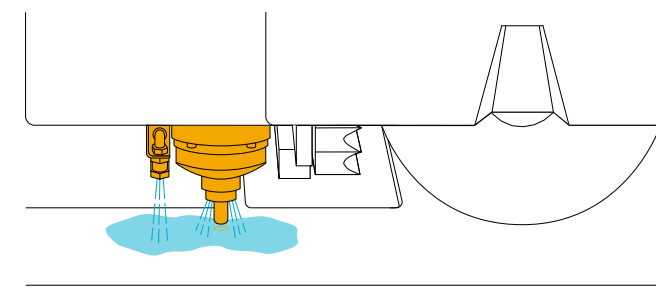

fig. 3
This can be done with a CNC machine. Infinity recommends the use of a specific diamond tip drill, taking great care with the hole depth, according to the thickness of the slab, to avoid accidental breaks during machining (fig. 3).
- Having identified and prepared the epoxy glue dispenser, eliminate the first 5 cm of glue to be sure that the product applied is well mixed (resin and catalyst) and has a uniform colour (fig. 3).